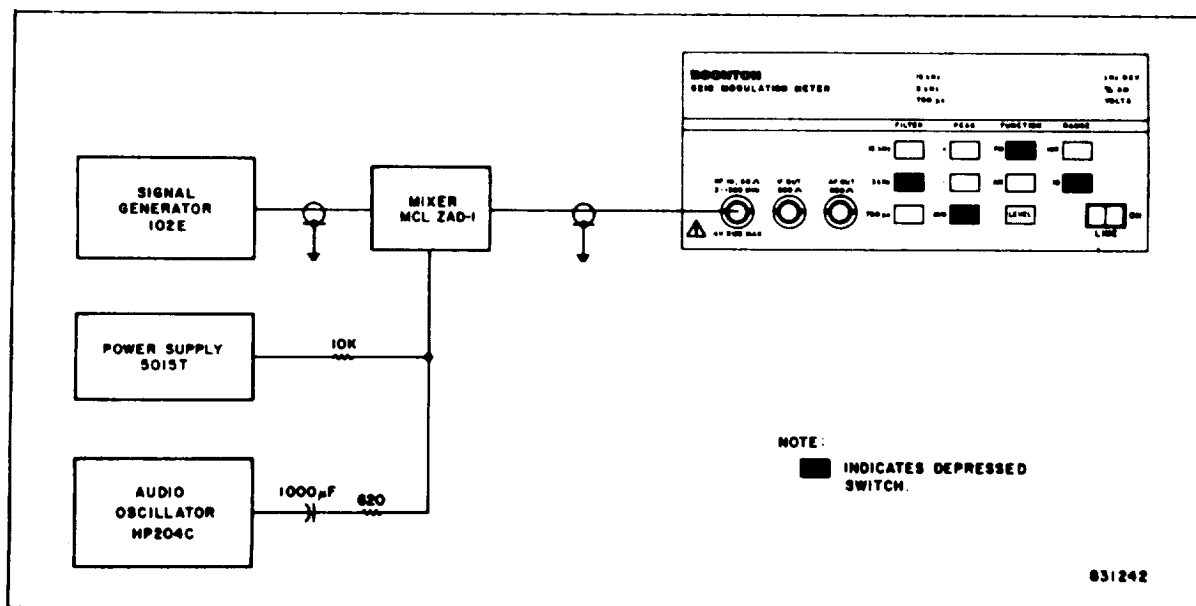

Figure 2-8. Test Setup: A.M. Rejection, A.M. Frequency Response, and A.M. Audio Distortion
- (1) Connect the 8210 and test equipment as shown in Figure 2-8.
- (2) Set the 8210's controls as shown in Figure 2-8.
- (3) Apply a 30 MHz signal, at 0 dBm, from the generator to the mixer.
- (4) Adjust the power-supply output voltage to +10 V d.c. Adjust the audio source for approximately 50% indicated a.m. at a 1 kHz rate.
- (5) Change the 8210's FUNCTION to FM.
- (6) Vary the r.f. level between 0 and +10 dBm for a deviation null. The display should indicate less than 100 Hz peak f.m. (Residual noise-modulation must be subtracted.)
g. A.M. Audio Distortion. NOTE: Step 2-6f, the A.M. Rejection check, should be completed before performing this verification. Leave the equipment set up as in Figure 2-8.
- (1) Adjust the audio oscillator for 90% a.m. at a 1 kHz rate.
- (2) The distortion analyzer should indicate less than 0.5%.
- (3) Vary the audio oscillator frequency from 50 Hz to 10 kHz.
- (4) The distortion should be less than 0.5% at all frequencies.